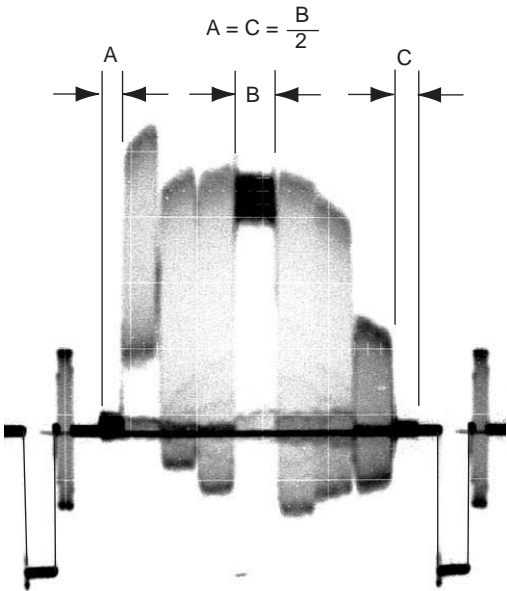
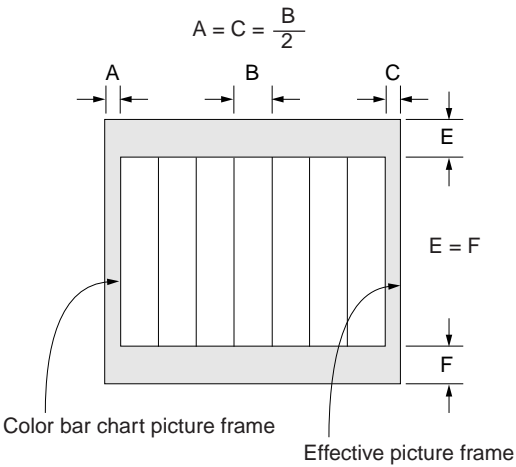

Fig. 6-1-25
Fig. 6-1-27
- 3) Upon successful completion of “1. Data Setting during Camera Adj.”, “2. Picture Frame Setting” is executed. The following message is displayed, and then referring to Fig. 6-1-25 to Fig. 6-1-27, set the subject and click the [OK] button.